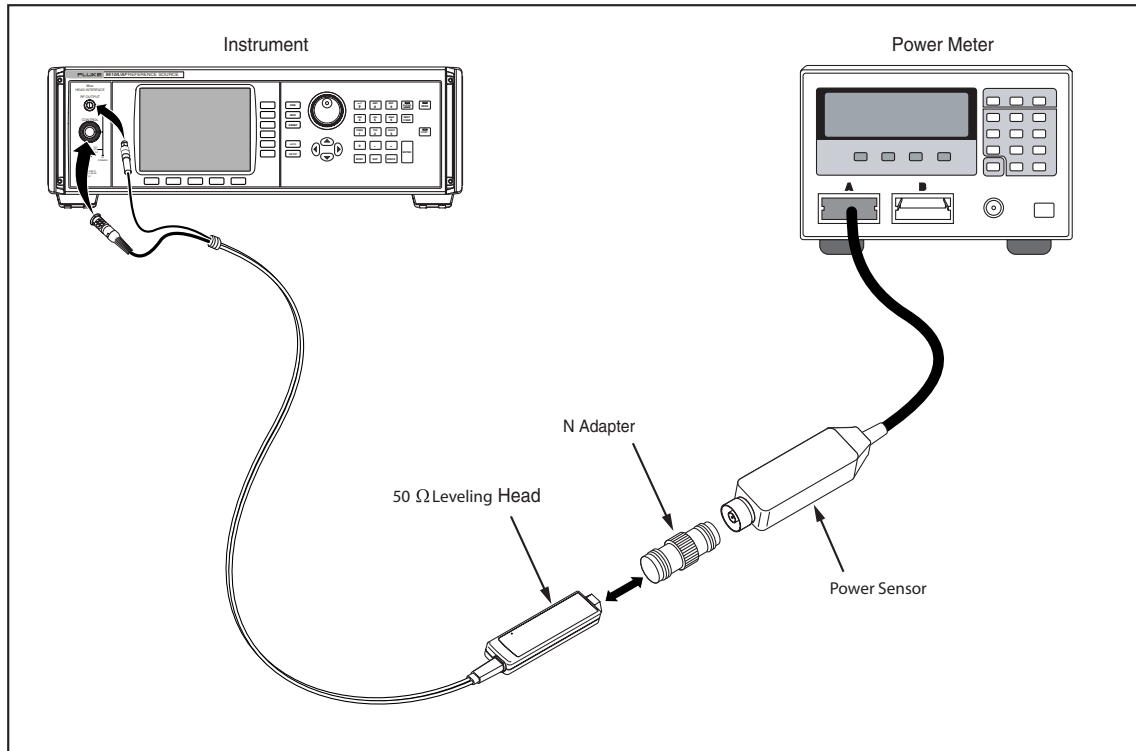

Figure 5-5. Level Accuracy Tests (50Ω), High Frequency Points
8. Connect the 50 Ω Leveling Head to the 50 Ω thermal power sensor via a precision 50 Ω Type-N female-to-female adapter. See Figure 5-5 for equipment connections.
18. Connect the 50 Ω Leveling Head to the 50 Ω diode power sensor via a precision 50 Ω Type-N female-to-female adapter. See Figure 5-5 for equipment connections.